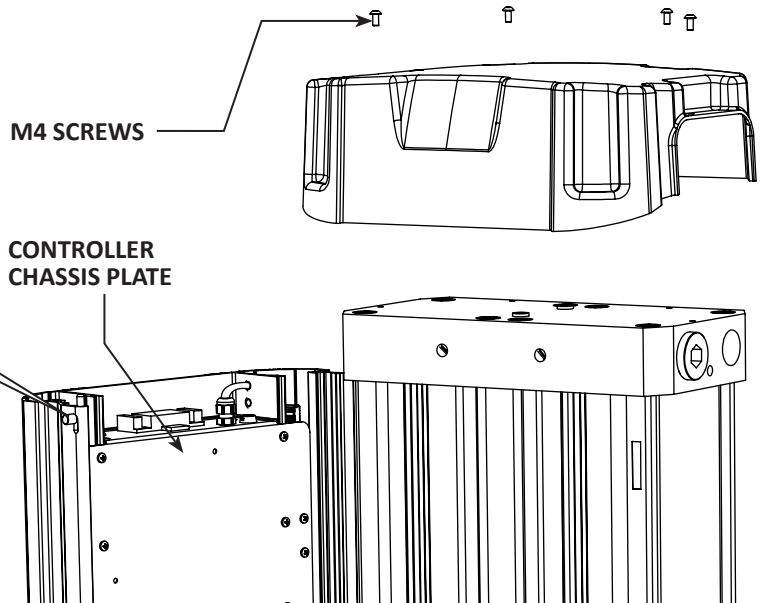

Figure 1.
2. Loosen the 4x M5 screws to remove the top cover. (See Figure 1)